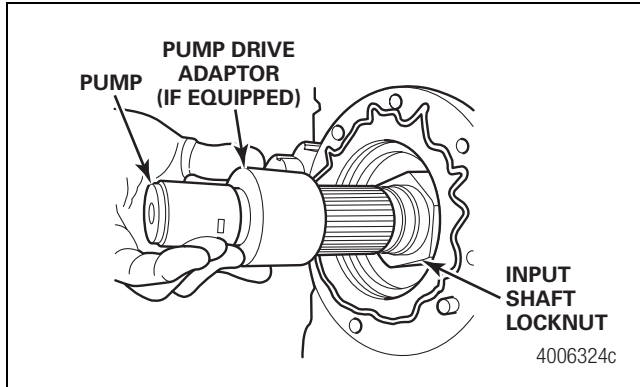

Figure 3
- Remove the pump and pump drive adaptor, if equipped. Figure 3.
- With the yoke holder still in place, use a special deep well socket tool to remove the locknut on the rear of the input shaft. Refer to Maintenance Manual MM-0146 for tool specifications. Figure 3.